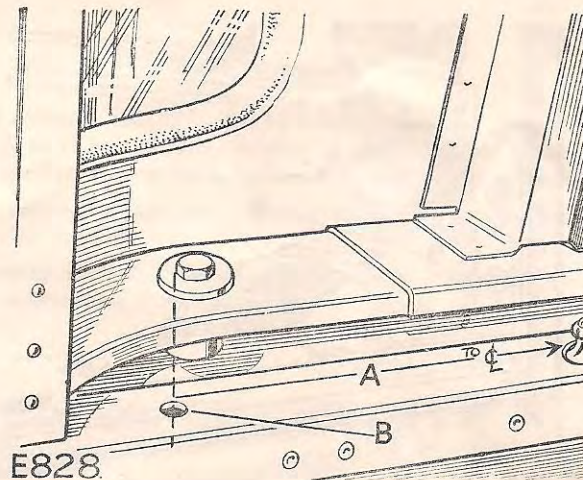

Fig. 6. Showing position of safety harness fixing hole. R.H. illustrated.
9. Measure a distance of 25 3/8 in. (671 mm) outboard, which should be to a 1/4 in. bolt securing cab to seat bulkhead, for R.H. or L.H. harness fixing as required, shown in Fig. 6.